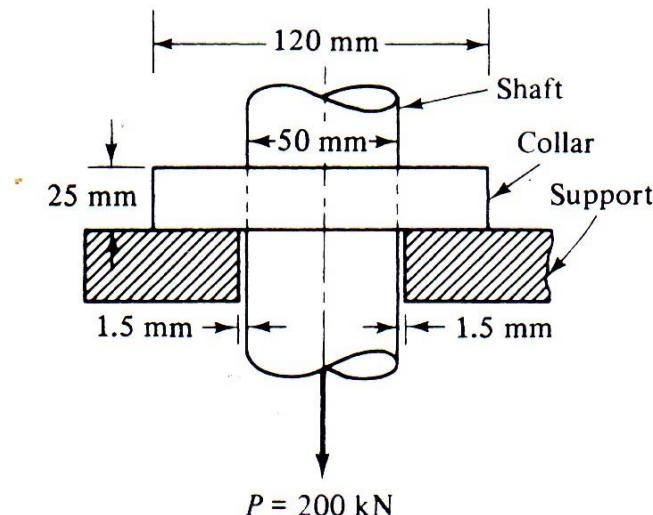

Figure Q5[a]
- [b] A composite bar made of aluminium and steel is held between the supports as shown in Figure Q5[b]. The bars are stress free at a temperature of 37°C.,